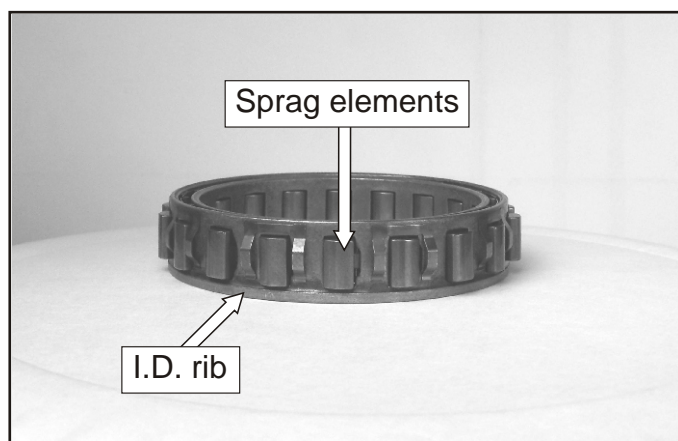

Figure 131
78. Inspect the sprag elements for wear as shown in Figure 131. Replace as necessary.